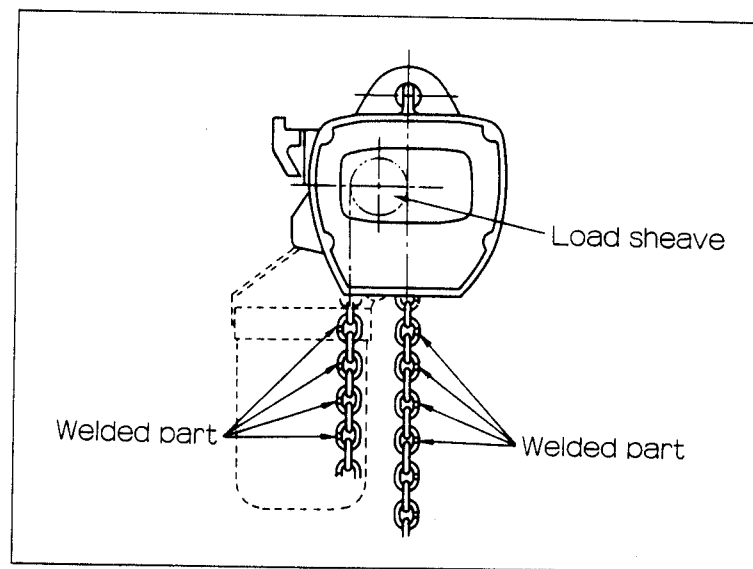

Fig. 13
- 2) The correct load chain attitude concerning the hoist center is that the weld of every link faces outward as shown in Fig. 13. When you replace a load chain, set it up correctly with respect to the welds.